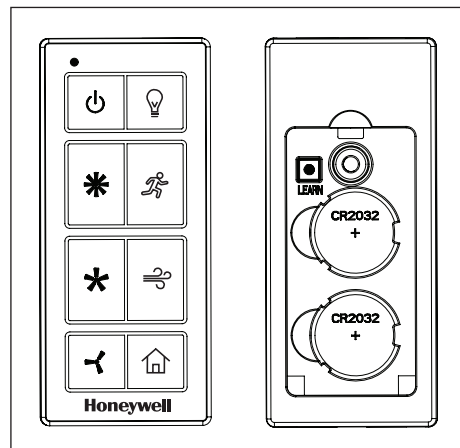

Figure 6.2
- To operate the fan using the remote, press and release the following buttons (Figure 6.2):